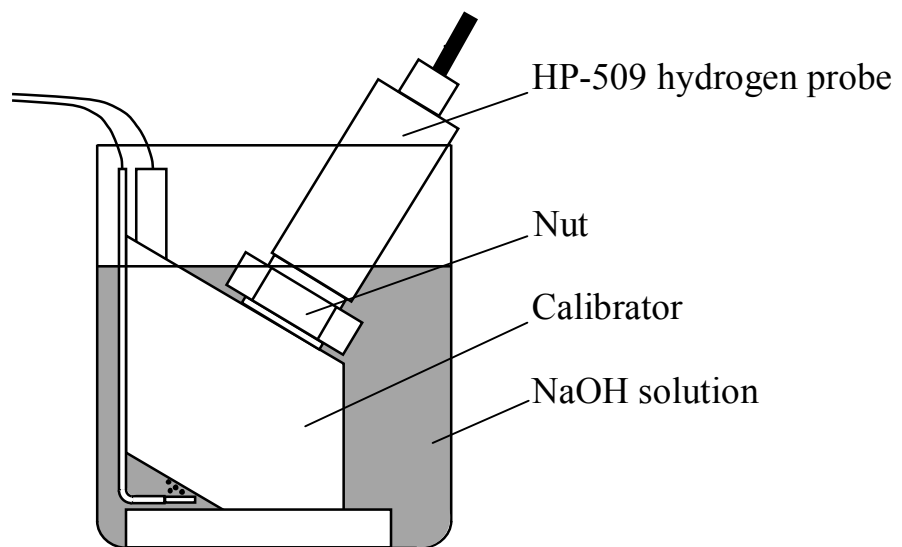

Fig. 2.11 – Analyzer calibration in a calibrator
- push analyzer probe into the calibrator socket against stop as shown in Fig. 2.11 and tighten the nut;